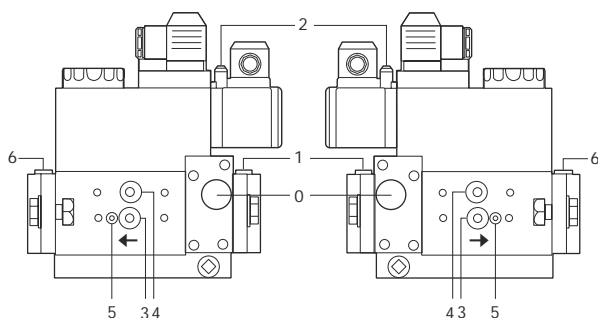
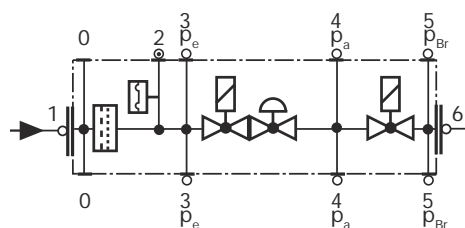

Fig. 38
Fig. 39
- Clean and check the gas filter cartridge, if necessary replace it (Fig. 38 on).
- Change the filter if the pressure difference between pressure connection 1 and 3 (Fig. 38-Fig. 39) is  $\Delta p > 10$  mbar.
- Change the filter if the pressure difference between pressure connection 1 and 3 (Fig. 38-Fig. 39) is twice as high compared to the last check.